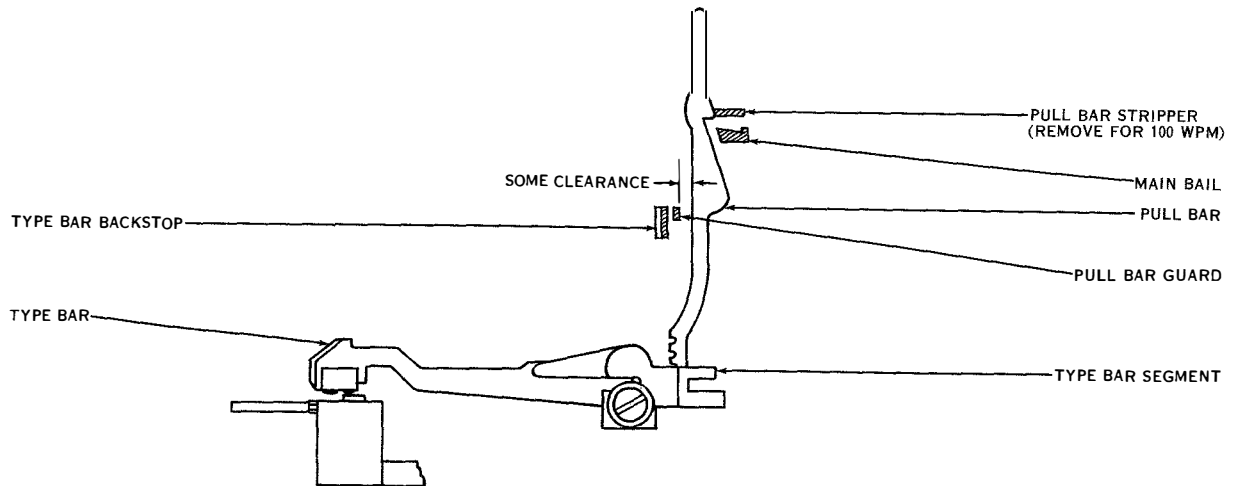

Figure 7-51. Pull Bar Guard
(50) PULL BAR GUARD. (See figure 7-51.)—With the main bail in its downward position, the pull bar should be adjusted to meet the following requirements.
Remove the pull bar stripper if unit is arranged for 100 word per minute operation (see figure 7-51).